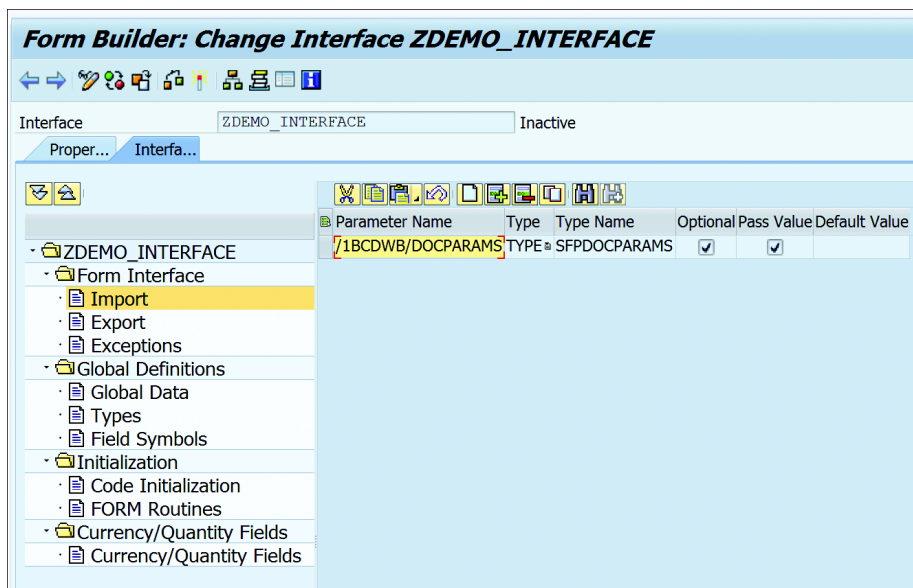

Figure 18.65 ABAP Dictionary-Based Interface
- ▶ **ABAP DICTIONARY-BASED INTERFACE:** This is the most frequently created interface. With this interface, you define the interface parameters by referring to the ABAP Data Dictionary objects, such as structures, table types, and data elements. This interface allows you to define the import parameters, export parameters, and exceptions (similar to a function module), as shown in Figure 18.65. Similar to a smart form, you can also define global definitions, initialization code, and currency/quantity fields. We'll use this interface for this example.
4. For this example, select ABAP DICTIONARY-BASED INTERFACE. The interface, as shown in Figure 18.65, consists of a tree structure on the left, which is used for navigation between different definitions. The right-hand side provides the work area to define the parameters, global definitions, and so on. As you can
see in Figure 18.65, there is a default /1BCDWB/DOCPARAMS parameter defined of type SFPDOCPARAMS. The SFPDOCPARAMS structure consists of various components, as shown in Figure 18.68.